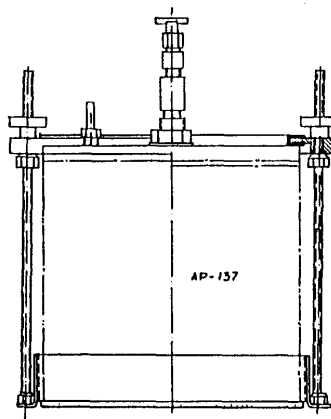

Figure 4
- ▶ For use with the Vacuum Pycnometer (6000 Gram), model 45-9300 (AP-132), mount a set of two discs 45-9315/10 (AP-912) on the top of the vibrator. See Figure 4.
- C. Adjust hex nut (item 4) in a vertical direction for a desirable level of vibration; i.e., the maximum amplitude with a moderate level of noise. Then lock item 3 with item 2.